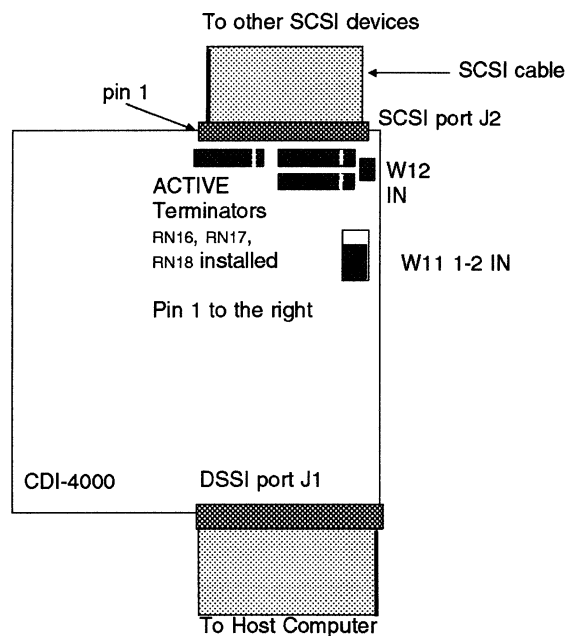

Figure 3-4: SCSI port active termination
Put three (3) active 110-ohm terminators in locations RN16, RN17, and RN18 (active resistor numbers end in 111). Pin 1 of resistor must align with pin 1 of the socket shown by the white mark in the Figure 3-4.
Put jumper shunt in W12 (this allows for +5-volts to be sent to the external terminator at the end of the SCSI bus). See Figure 3-4.